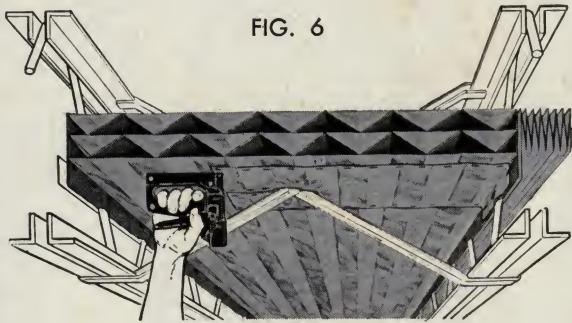

FIG. 6
4) If desired, in addition, a piece of aluminum about 12" x 17" can be stapled *over the slit* to extend 6" on each side of the slit (including the flange). The piece of aluminum should be extended 3" beyond the bridging intersection by notching the 3" extension lengthwise along its center. See Fig. 6. The Bostitch T5-8 Outward Clench Tacker can easily staple this piece of aluminum to the bottom aluminum sheet of the insulation. For neatness, staple close to the *edges* of the attached piece of aluminum.